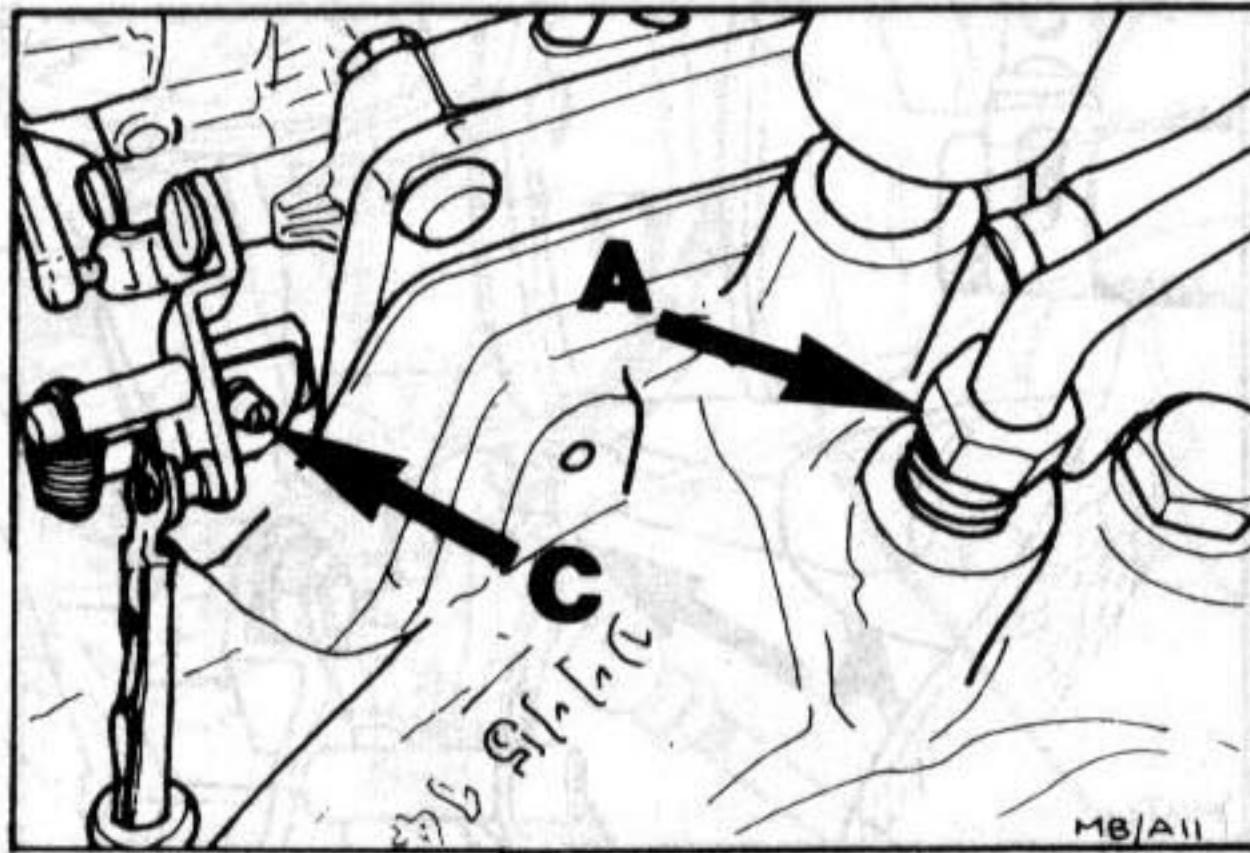

Fig. 2 Idle speed adjustment screw (A)
- d) If outside specified limits, adjust by turning adjustment screw (A) at intake manifold (Fig. 2).
- c) Pull tamperproof cap from throttle valve stop screw (C, Fig. 2).